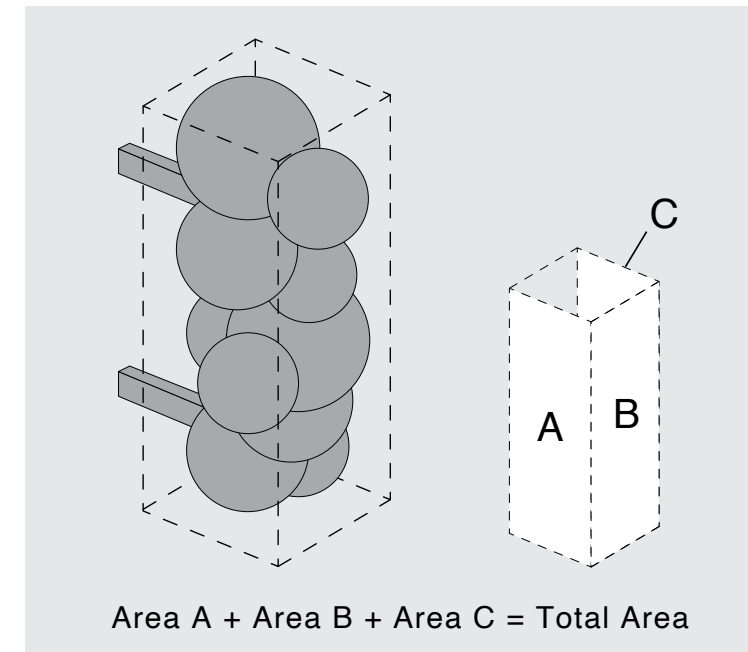

Fig. 1 Area of Placemaking Art Sign
- For placemaking art signs, which may have multiple dimensional features, area shall be determined by drawing a box around the entire sign, and computing the area of the three outside faces (see Fig. 1).